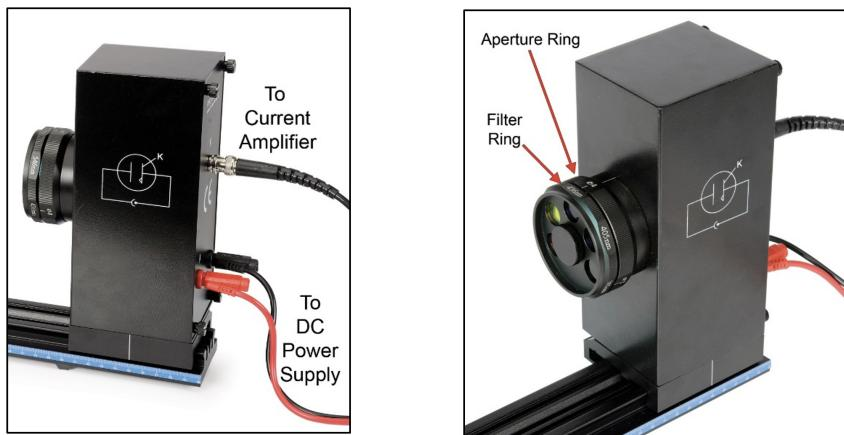

FIG. 5. (Left) Photodiode Connections. (Right) Filter Ring and Aperture Ring on Photodiode.
12. Connect the cables to the photodiode (see Figure 5)
13. During the experiment, you will be changing the aperture and the filters (see Figure 5).